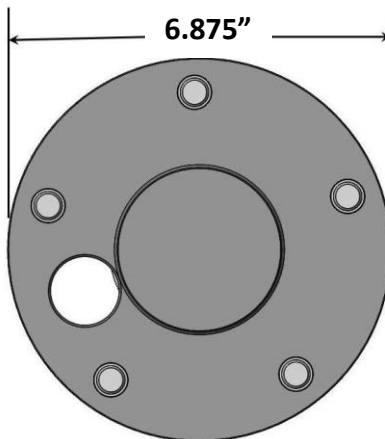

Figure 1 – Measuring the Axle Flange
4. The outer diameter of the axle flange can be no larger than 6.875" in outside diameter. This is critical for proper fitment of the rotor over the axle flange. For axle with a flange larger than 6.875", using a lathe, machine the outer flange down to no larger than 6.875". See Figure 1 below for measuring reference.